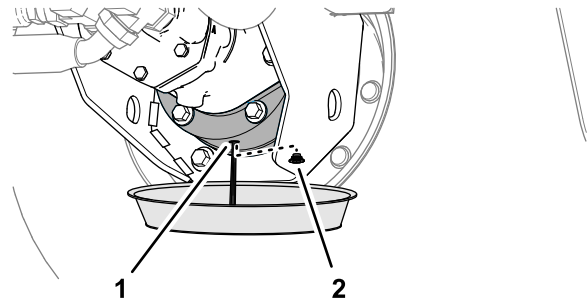

Figure 101
6. Place a drain pan under the brake housing, remove the drain plug, and allow the lubricant to drain completely (Figure 101).